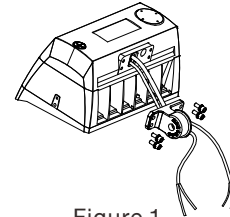

Figure 1
STEP 1: Remove the bracket mounting screws on the fixture and run the wires through the bracket (FIGURE 1)